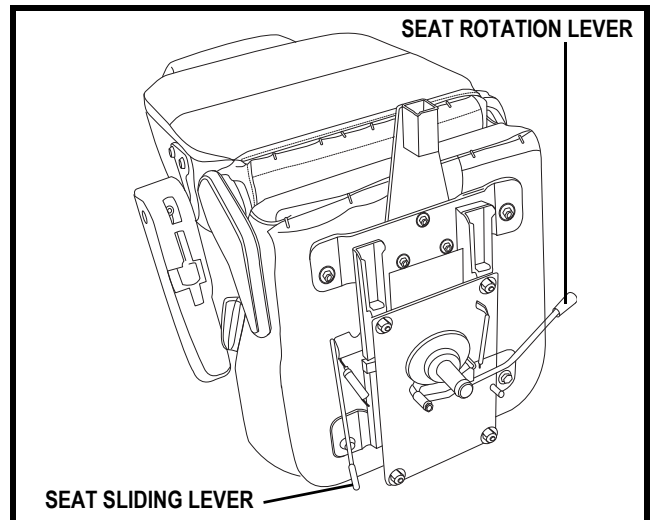

Figure 12. Seat Adjustment
1. Push forward on the seat rotation lever to disengage the seat. See figure 12.
You can reposition the PMV's seat forward or rearward to adjust the distance between the seat and the tiller. See figure 12.